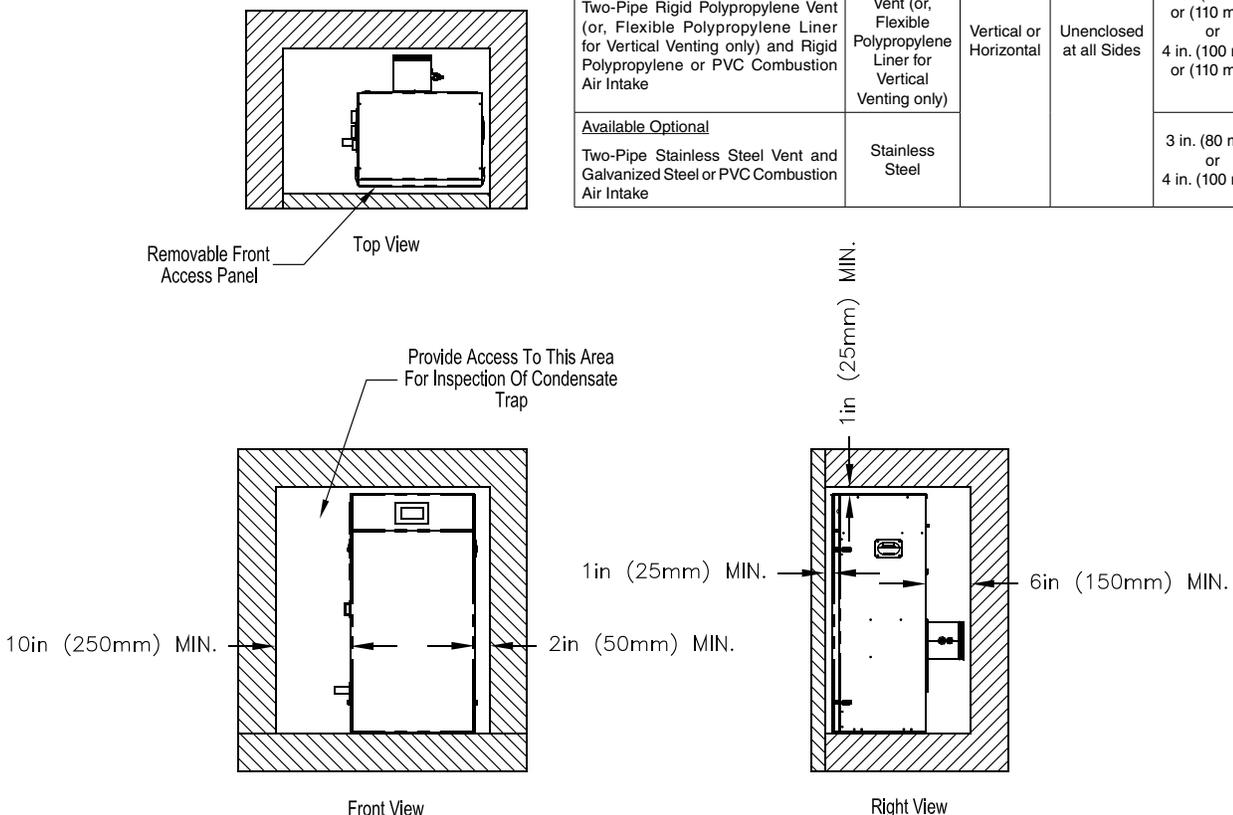

Figure 3-1: Clearances To Combustible and Non-combustible Material, Floor Standing
- C. Provide clearance between boiler jacket and combustible material in accordance with local fire ordinance. Refer to Figure 3-1 or 3-2 for minimum listed clearances from combustible material. Recommended service clearance is 24 in. (610 mm) from left side, front, top and rear of the boiler. Recommended front clearance may be reduced to the combustible material clearance providing:
These boilers are listed for closet installation with the minimum clearances shown in Figures 3-1 and 3-2.
When positioning the template in the desired location on the wall ensure that the minimum clearances to combustible material at adjacent walls and ceiling are maintained. Consult Figures 3-1 through 3-3 in this manual. Be sure to allow space at the boiler left side for gas and water connections, as well as for access to the condensate trap and boiler controls for servicing.